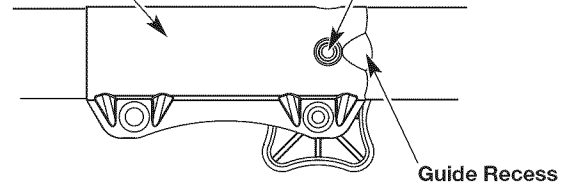

Fig. 5
NOTE: Aligning the release button with the guide recess will help installation (Fig. 5).
2. Press and hold the release button (Fig. 5).